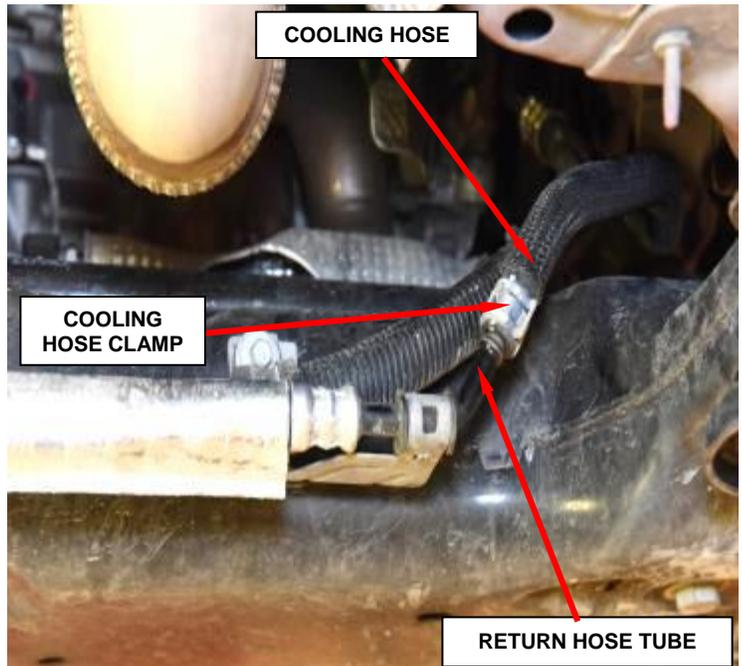

**Figure 6 – Rear Routing Clamp Screw**
12. Remove and save the rear cooler assembly routing clamp screw securing the cooler return assembly to the frame rail (Figure 6).
20. Install the rear cooler return assembly routing clamp screw securing the cooler return assembly to the frame rail. Tighten the screw to 71 in. lbs. (8 N·m) (Figure 6).